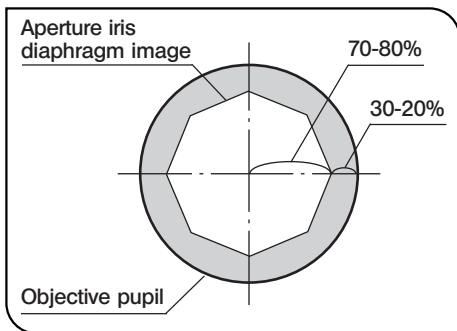

Fig. 26
Aperture Iris Diaphragm (Figs. 26 & 27)
- Since the contrast of microscope specimens is ordinarily low, setting the condenser aperture iris diaphragm to between 70% and 80% of the NA of the objective in use is usually recommended. If necessary, adjust the ratio by removing the eyepiece and looking into the eyepiece sleeve while adjusting the aperture iris diaphragm ring ① until the image shown in Fig. 26 is seen.